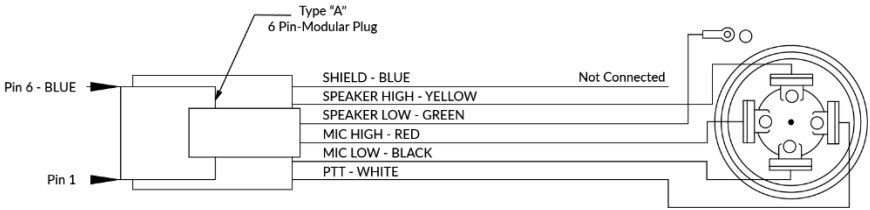

Figure 1
1. Using the cutter blade on the crimping tool (A), cut the flat CA Cable so the cut is clean and 90 degrees to the sides of the cable.
2. Insert one end of the CA Cable between the stripping blades (C) until the end of the cable hits the stop (B).
6. Push a RJ Modular Plug into the plug holder on the crimping tool (D) until the release tab on the plug locks into position.
7. Holding the cable so it's orientated like in *Figure 1* from the Wiring Diagram section below, push the cable into the plug as far as it will go.